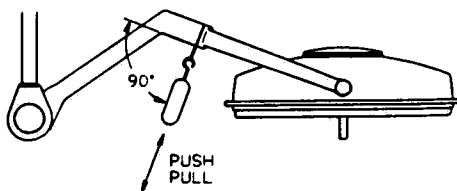

Figure 3-14. SUSPENSION ARM MOTION.
2) The force necessary to position arm (full up and down) should be 5 to 13 lbs. Adjust if necessary. See Figure 3-14.